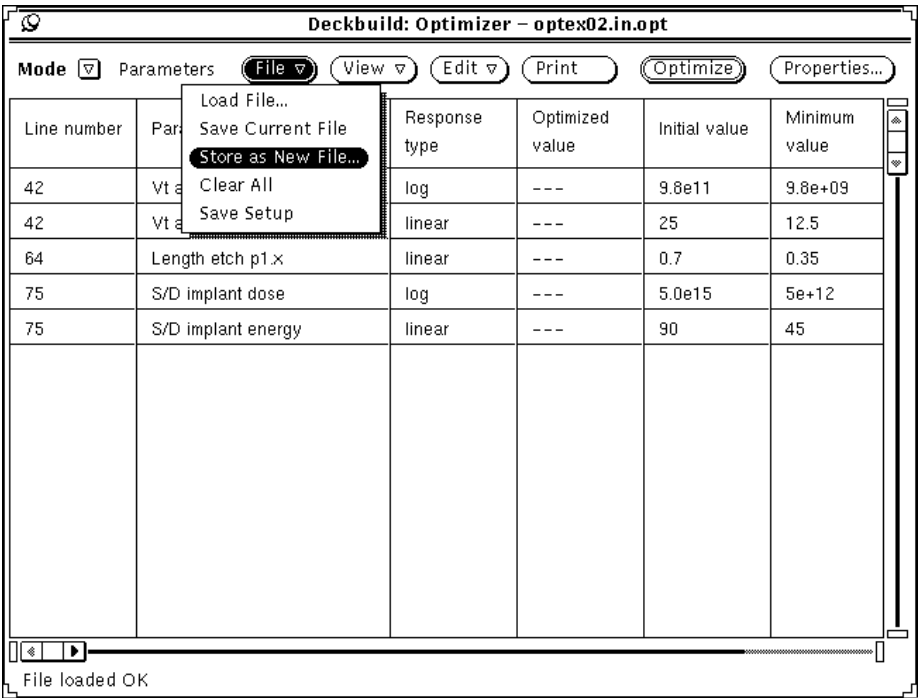
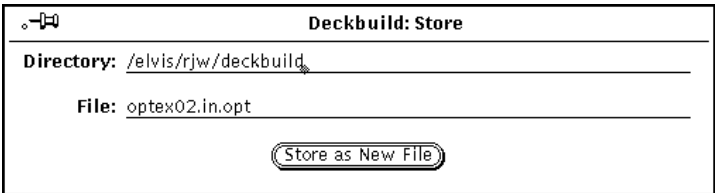

Figure 6-26: Storing a New File
Figure 6-27: Store Popup
1. Move the pointer to the **File** menu button, press the MENU mouse button, and select **Store as New File...** (Figure 6-26). The **Store** popup will then appear (Figure 6-27).